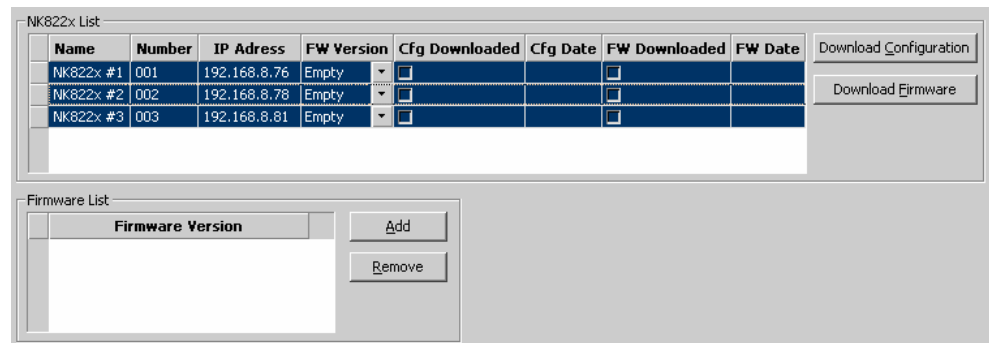

Fig. 7 Selecting the NK822x
See the following Fig. 7.
- Verify that the "Cfg Downloaded" checkboxes contain 'X's see Fig. 7 above